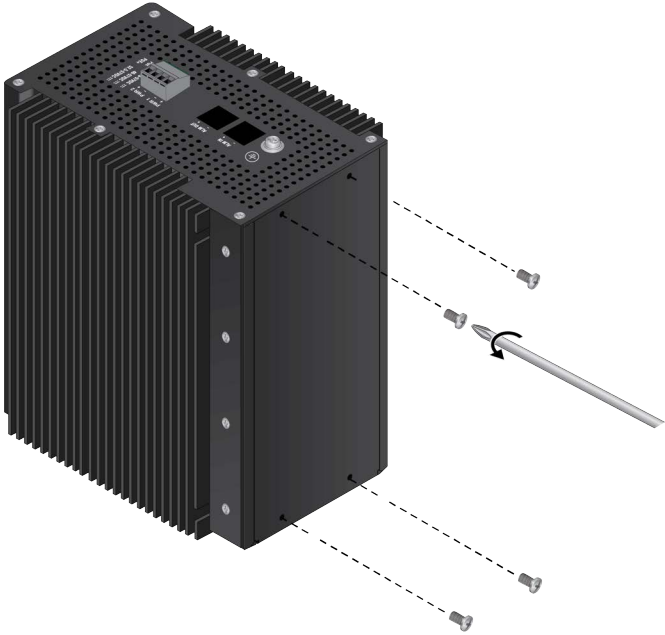

Figure 30. Removing the Four Screws from the Back Panel
- 3. Remove the four screws from the top and bottom of the back panel. Refer to Figure 30.
3. Remove the four screws from the top and bottom of the back panel. Refer to Figure 30 on page 79.